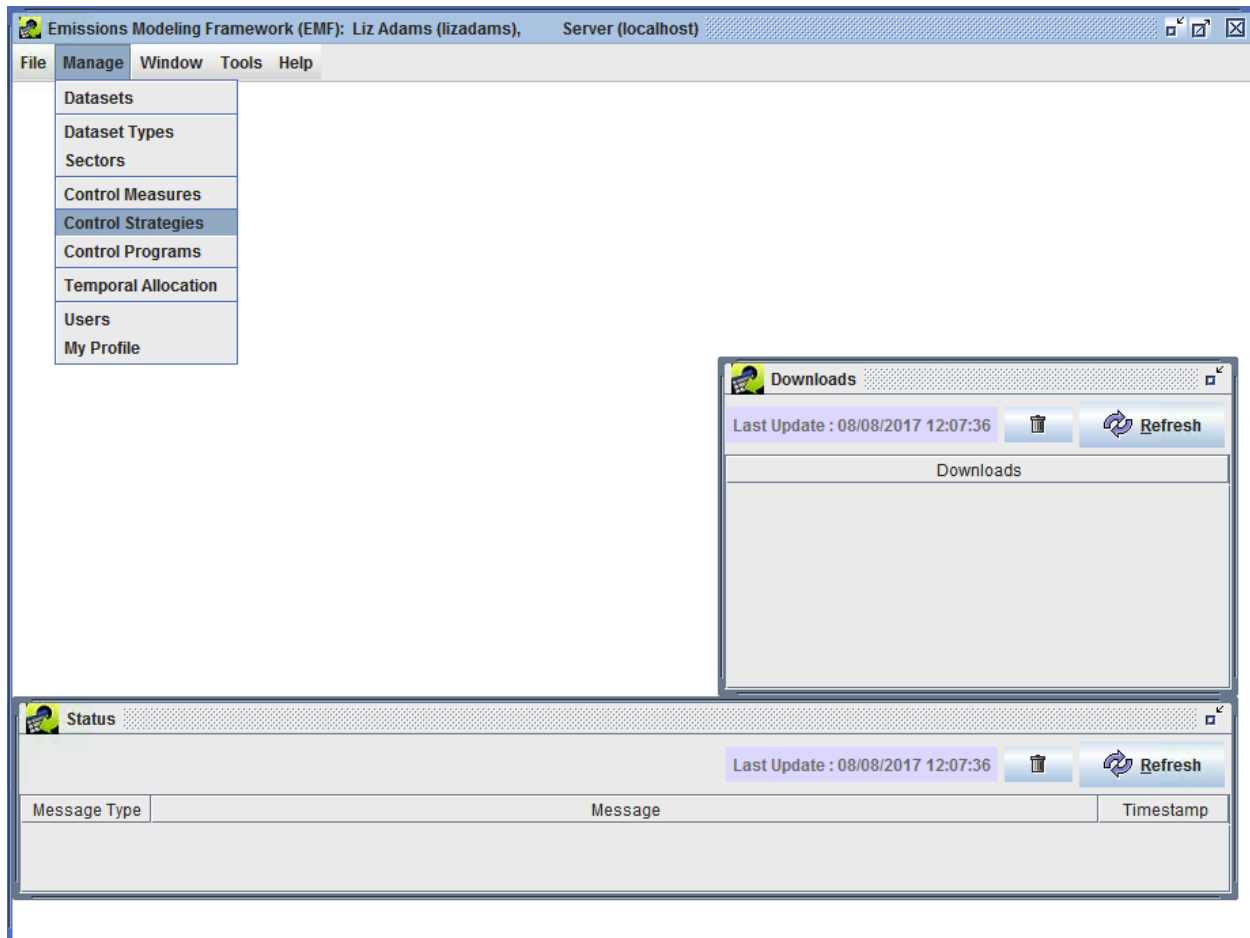
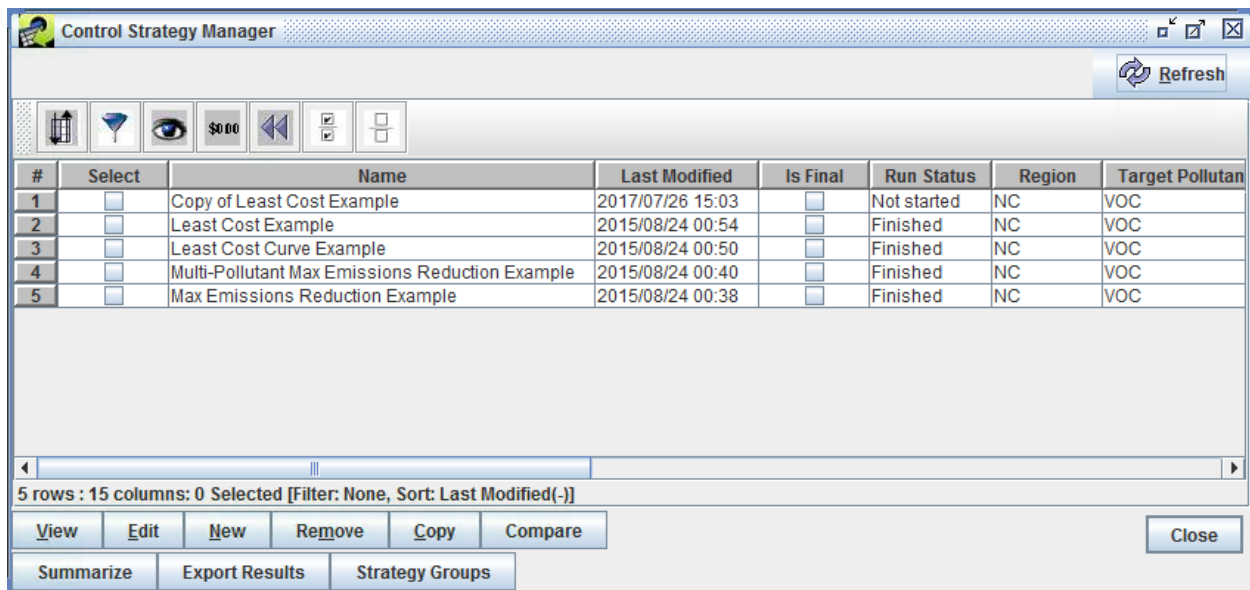

Figure 4.2: Manage Menu of EMF Main Window
Figure 4.3: Control Strategy Manager Window
Step 3-1: Open Control Strategy Manager. To open the Control Strategy Manager, choose **Control Strategies** from the **Manage** menu on the EMF main window (Figure 4.2) and the Control Strategy Manager will appear (Figure 4.3).